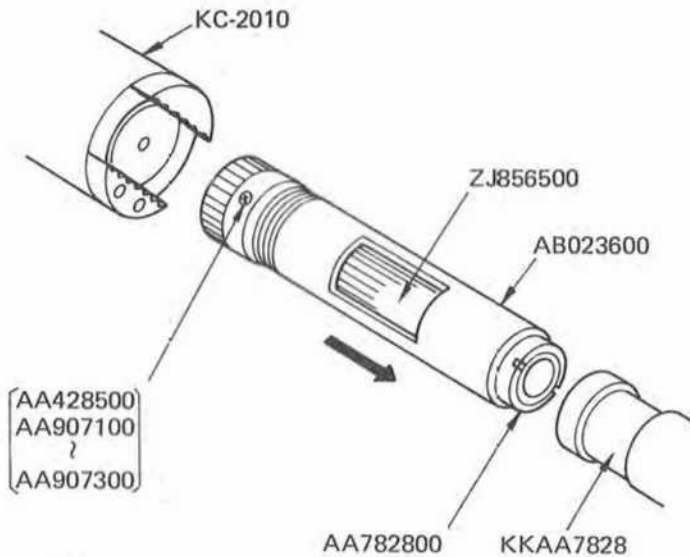

Fig. 3-16
(See Fig. 3-16.)
- d) Extract Pinion Mount AB023600 in the direction indicated by arrow in Fig. 3-16. Balls B1/16 are removed together.